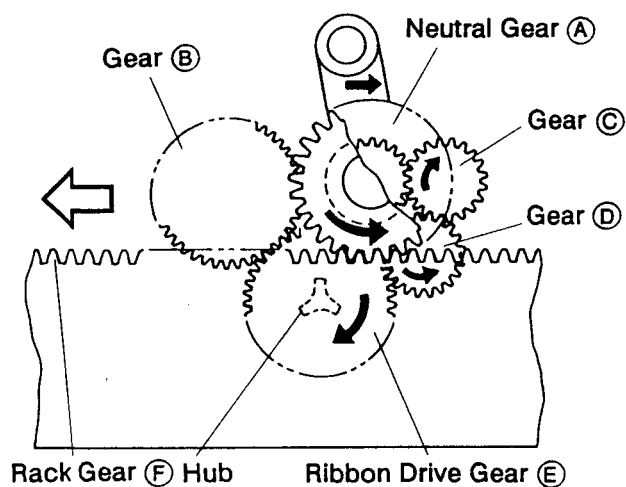

Fig.1 (Bottom View)
This function performs the ribbon feed operation in accordance with the movement of the carriage. The ink ribbon cassette drive mechanism is shown in Figures 1 and 2.
When the carriage moves to the right (Fig.1), rack gear (F) turns the neutral gear (A) counter-clockwise, and then neutral gear (A) engages with gear (D) via the gear (C) which turns the ribbon drive gear (E) clockwise with the hub.